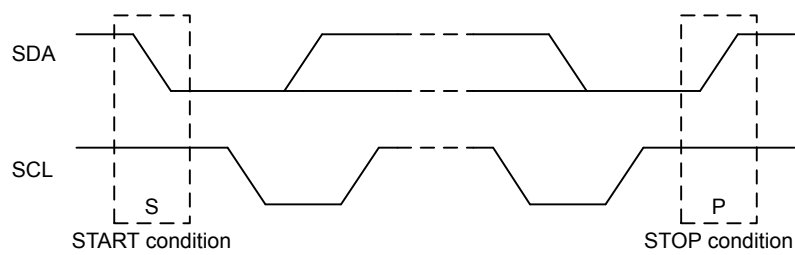

Figure 17.4. I2C START and STOP Conditions
START and STOP conditions are used to initiate and stop transactions on the I²C-bus. All transactions on the bus begin with a START condition (S) and end with a STOP condition (P). As shown in Figure 17.4 I2C START and STOP Conditions on page 447, a START condition is generated by pulling the SDA line low while SCL is high, and a STOP condition is generated by pulling the SDA line high while SCL is high.